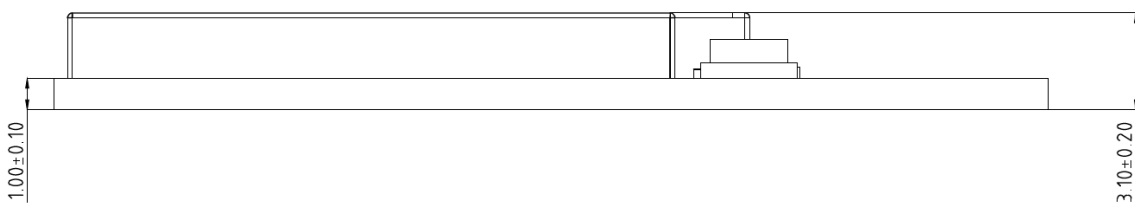

Figure 14 EMW3165 Side View
- Please according to the SMT reflow soldering curve, peak temperature 245°C , reflow soldering, temperature curve as shown in figure 14, section 7.6;